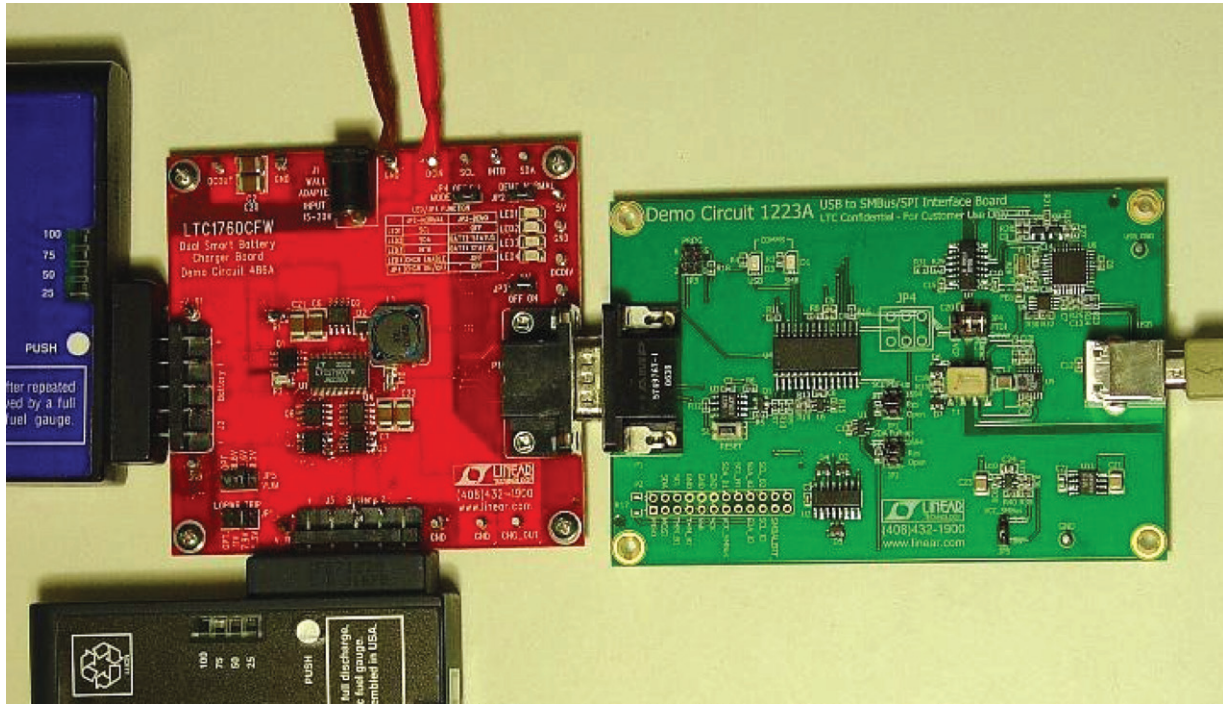

Figure 6. Hardware Setup Between a DC1223A-B and a DC486 (Can Be DC512, DC486, DC286, Etc.). JP4 Should Be on VCP.
5. Connect the hardware the same way as shown in Figure 6.
Note: It is not necessary to use a DC486. Any SMBus device with SCL, SDA, GND can be connected to DC1223A-B via the P2 connector. For example you can use a smart battery as a SMBus device as shown in Figure 6. Smart battery is a master/slave device.
1. Connect the hardware as shown in Figure 6. Do not connect the USB port to the computer yet.